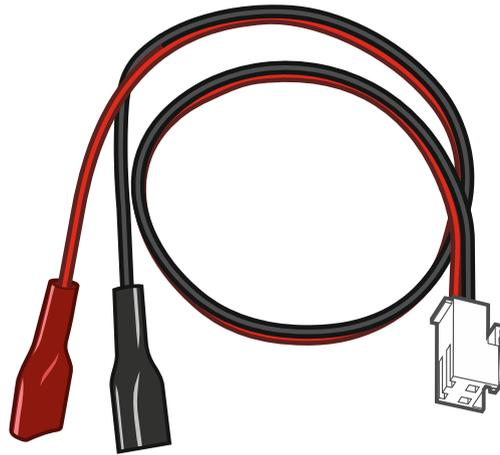

Fig. 2. Battery connection wires (red +, black -).
- ② RESET pins for emergency starting the control panel (see: “Emergency procedure of the control panel start-up” p. 13).
- ③ RS-232 (TTL) port.
- ④ connector for battery connection wires. The wires are included in the set (Fig. 2).
- ⑤ LED indicators: